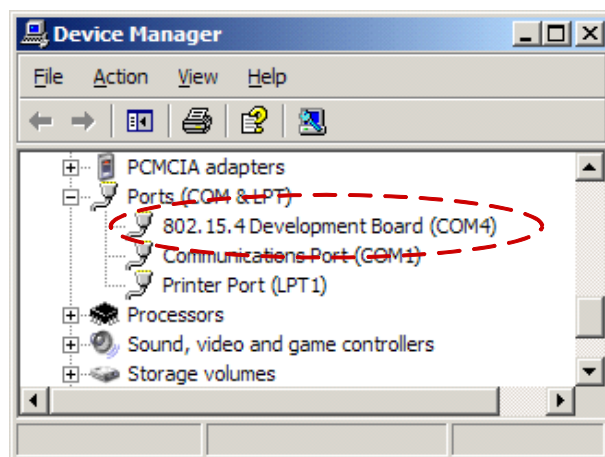

Figure 3. Determining COM port from the Device Manager
- Open the Ports subsection, find the attached 802.15.4 Development Board device (assigned to COM4 in this example; see Figure 3.)